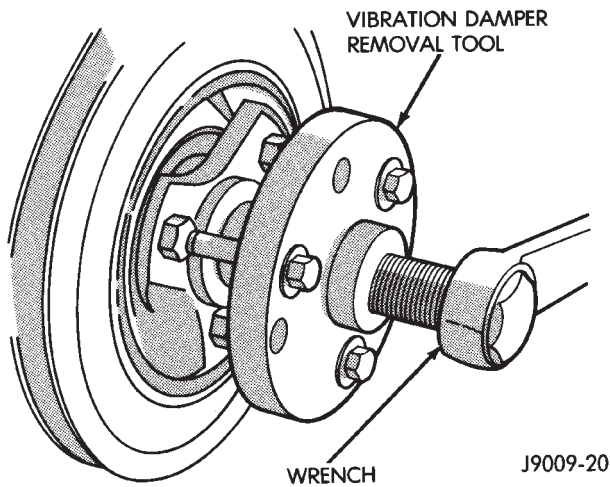

Fig. 1 Vibration Damper Removal Tool 8068
- (1) Disconnect negative cable from battery.
- (2) Remove the serpentine drive belt and fan shroud.
- (3) Remove the vibration damper retaining bolt and washer.
- (4) Use Vibration Damper Removal Tool 8068 to remove the damper from the crankshaft (Fig. 1).